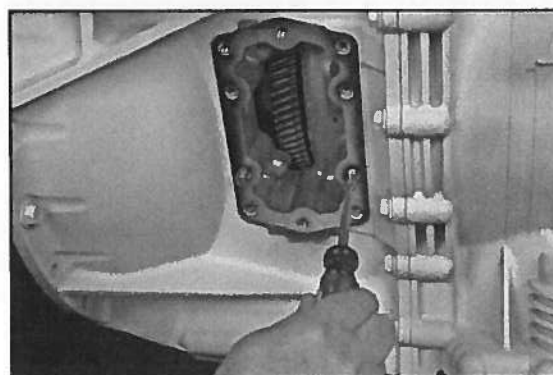

Fig. 12
4. Using a screwdriver, install the guide pins until they bottom out (**Fig. 12**).